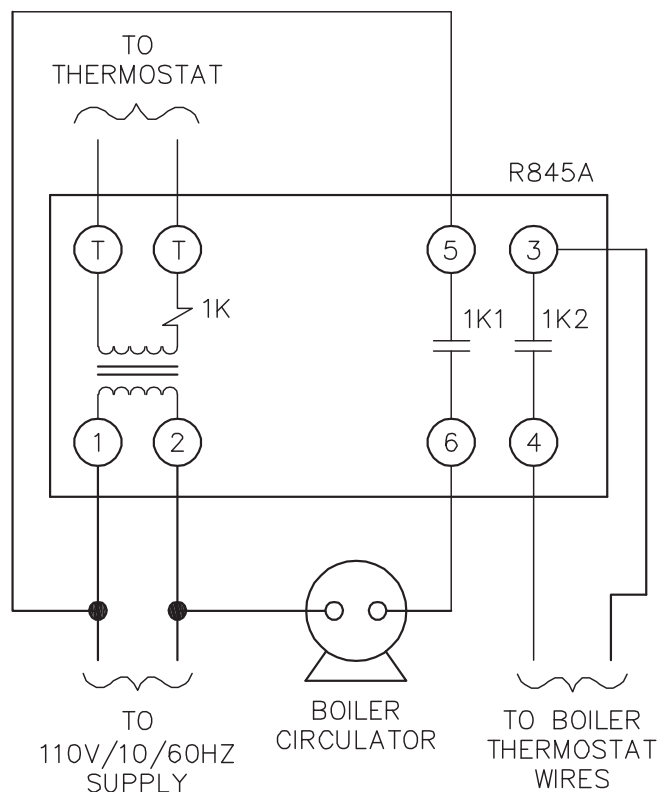

Figure 6.2
- c) An example of this wiring using a Honeywell R845A relay is shown in Figure 6.2